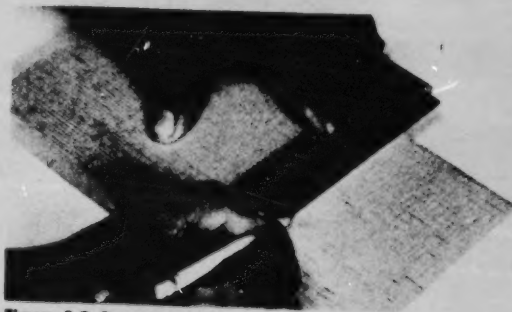

Figure 3-5 Squaring a line
3. Place a try square on the board, and hold its handle tightly against the working edge as shown in Figure 3-5.
5. Draw a **square line** across the surface of the board at the mark (Figure 3-5).